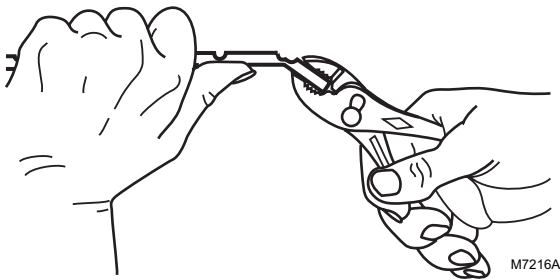

Fig. 13. Removing excess bulb support.
3. Break the holder to the desired length. (See Fig. 13).